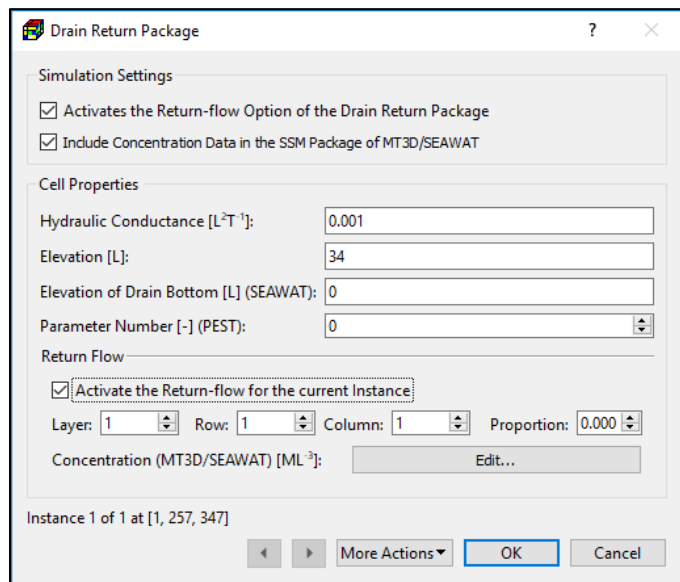

Figure 41. the Drain Return Package dialog box for specifying cell properties
2. Cell-by-cell input method: Figure 41 shows the dialog box for specifying cell properties.